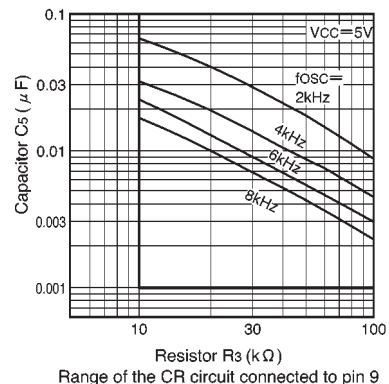

Fig. 9
- (1) Use the potentiometers VR1 and VR2 connected to pins 1 and 3 to set the 0dB levels and adjust the channel 1 and channel 2 balance.
- (2) The recommended oscillator frequency is 4kHz (pin 9). The external component values for C_5 and R_3 are $0.01\mu\text{F}$ and $41\text{k}\Omega$ (or $39\text{k}\Omega$). If you wish to use other values, they should be in the ranges $0.001\mu\text{F}$ to $0.1\mu\text{F}$ and $10\text{k}\Omega$ to $100\text{k}\Omega$. (see Fig. 9).
- (3) The dynamic ranges for the BA6820F and BA6822S/F comparators are large, and the comparators will operate even with low-level signals. For this reason, noise may cause the LEDs to light when they should not, and to prevent this, GND line noise should be kept sufficiently low.
- (4) Take care to ensure the none of the pins have a voltage applied to them that is higher than V_{CC} or lower than GND (e.g. supply the LED current from a source other than V_{CC}).
- (5) In general, the level meter output block is switched on and off in the range GND to V_{CC} , and a large voltage with a large high-frequency component is generated. Therefore, if the input and output lines are close, the out-